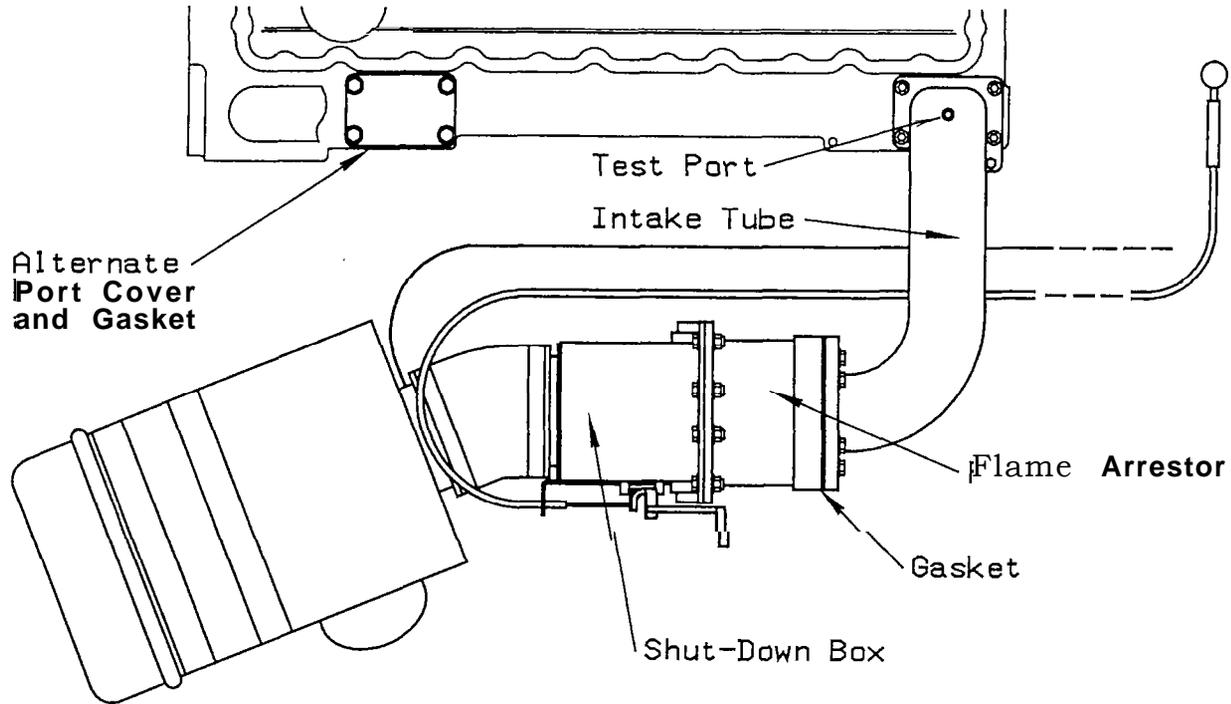

Figure 1 (Top View)
1. () **(WEEKLY)** Components appear to be the same as shown in figures 1 & 2.